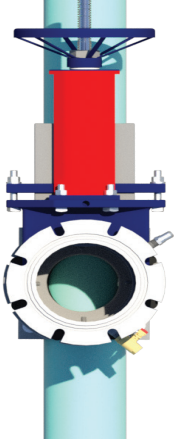

Figure 1A
2.2.1) Install the temporary gate valve. Use the 8” temporary gate valve on 4”, 6”, and 8” HSF 250s. If using aluminum stopping heads, position the temporary gate valve at the true 3, 6, 9, or 12 o’clock position (see Figure 1A). This will assist in the alignment of an aluminum stopping head in the line stopping procedure.